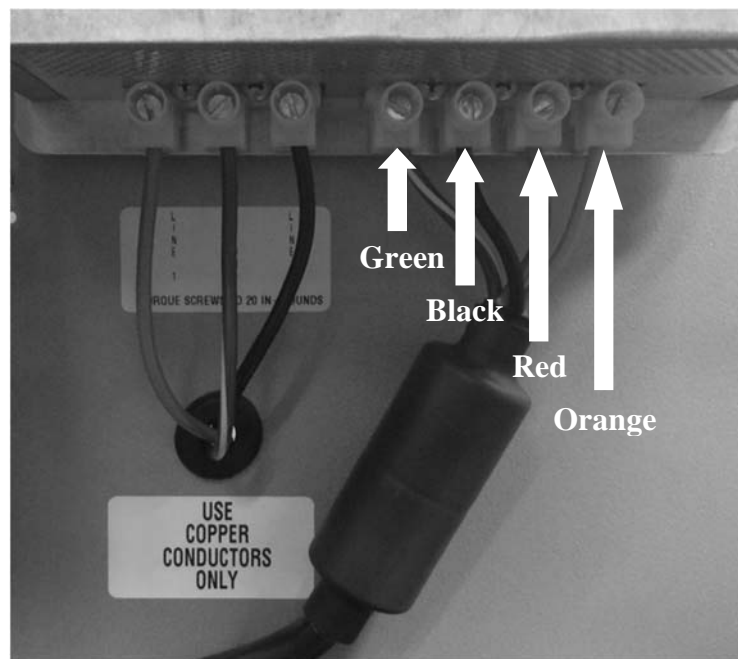

Figure 15 – Cord Reel Wiring Termination
7. Reconnect the cord reel wiring to the terminal block per Figure 15.
6. Disconnect the cord reel wiring from the terminal block (see Figure 15, page 16).
9. Reconnect the cord reel wiring to the terminal block per Figure 15 on page 16.